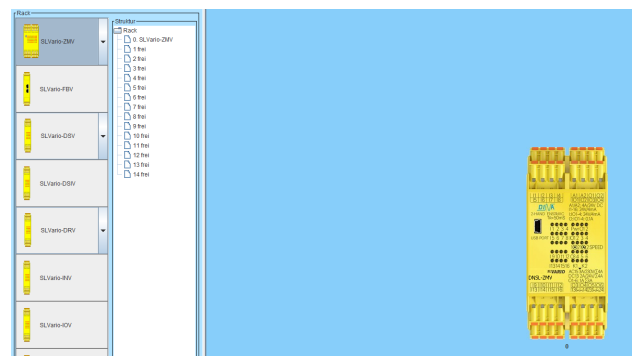

Fig. 2-4
- With the left mouse button pressed down, drag the selected module to the desired slot 0 in the "Structure" area. (Fig. 2-4)